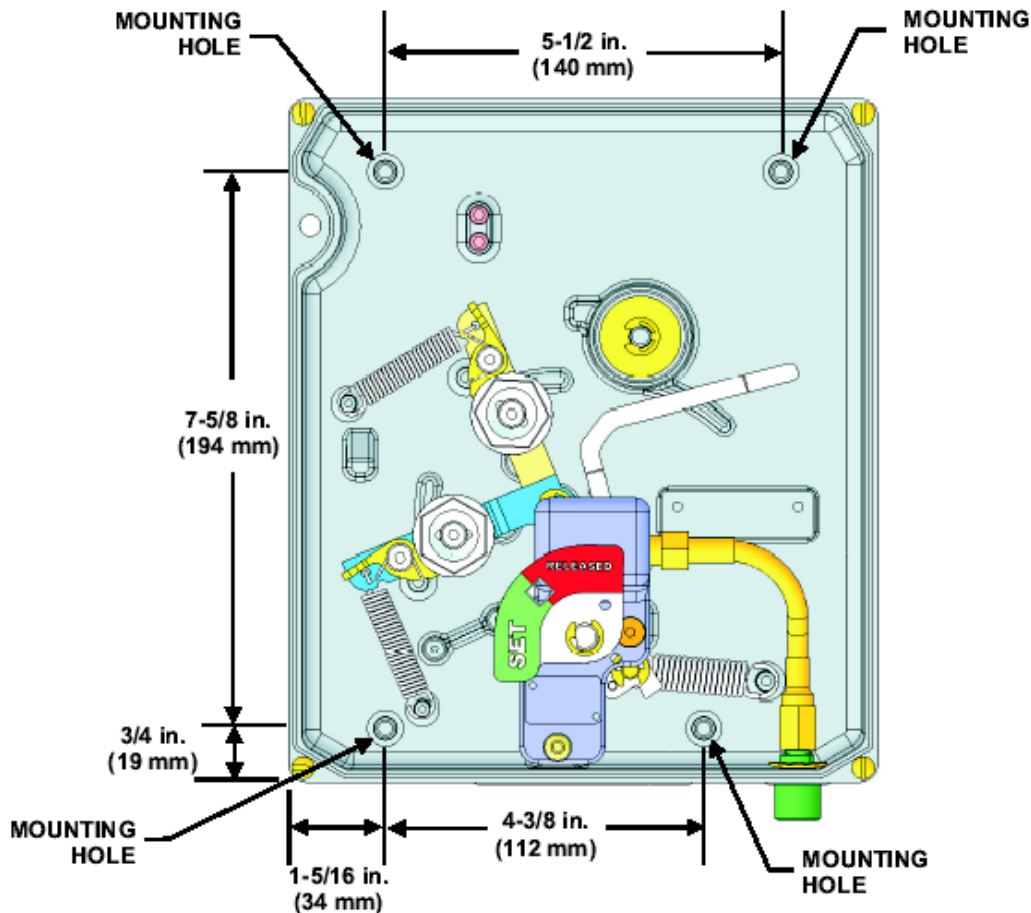

Figure 4-11. Location of Mounting Holes (Housing)
1. With the XV Control System cover removed, lay the box on its back. Locate the four mounting holes in the housing. Position the box so that the mounting holes are not flat on the work surface and break out the knockouts. See Figure 4-11 for location of mounting holes.